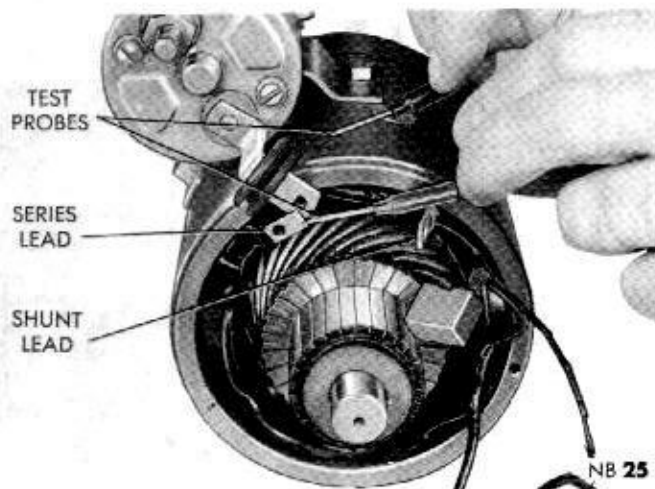

Fig. 10—Testing Series Coil for Ground
(4) Remove ground brushes attaching screw, and raise brushes with terminal and shunt wire up and away from field frame.
(5) Touch one probe of test lamp to series field coil lead and other probe to field frame (Fig. 10). Lamp should not light.